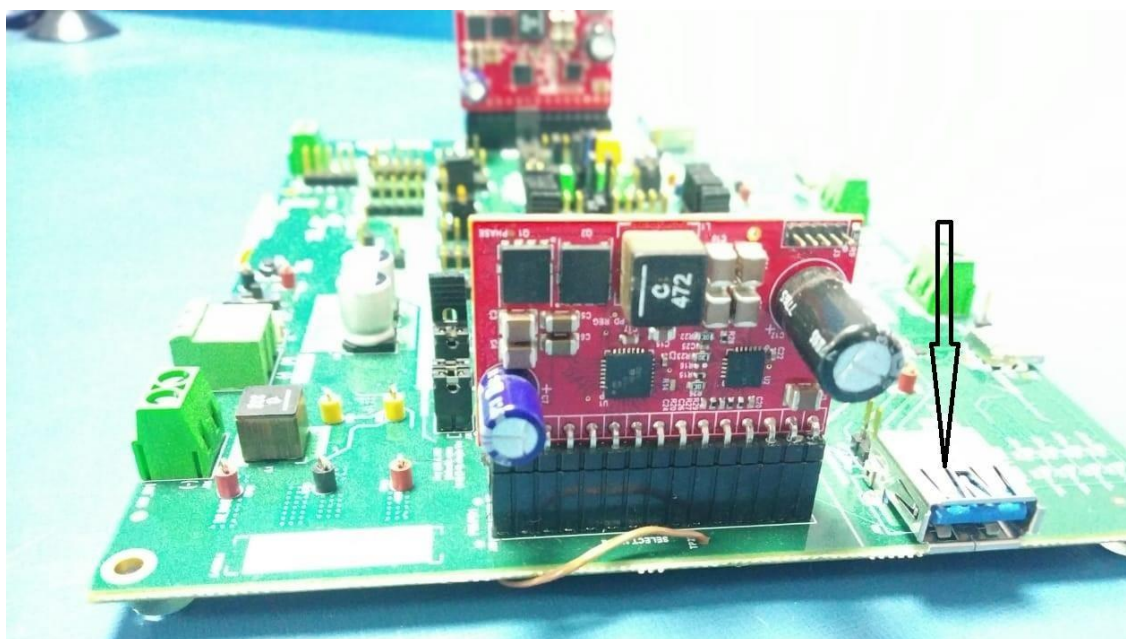

Figure 5.1 PM-PD Orientation
1. Connect PM-PD cards to J35 and J44 of the PSF-EVB in correct orientation as shown in Figure 5.1